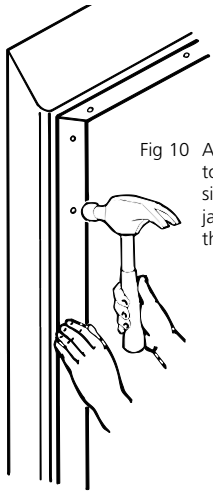

Fig 10 Add timber strips to the top and sides of the door jamb to reduce the opening size.
2. If the door frame is too large for a standard door, nail timber cover strips to the top and sides of the door frame to reduce the opening size (Fig 10).